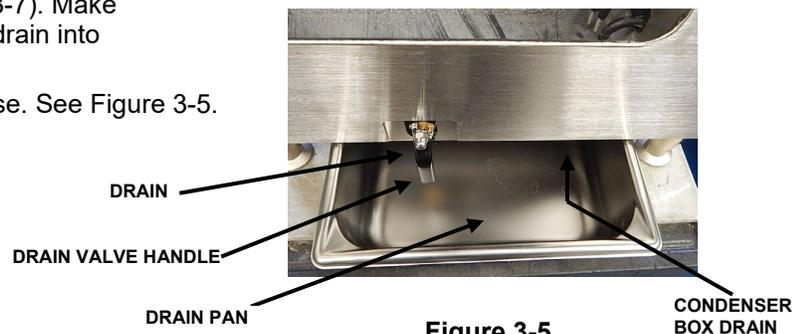

Figure 3-5
6. Inspect and clean the drain before each use. See Figure 3-5.